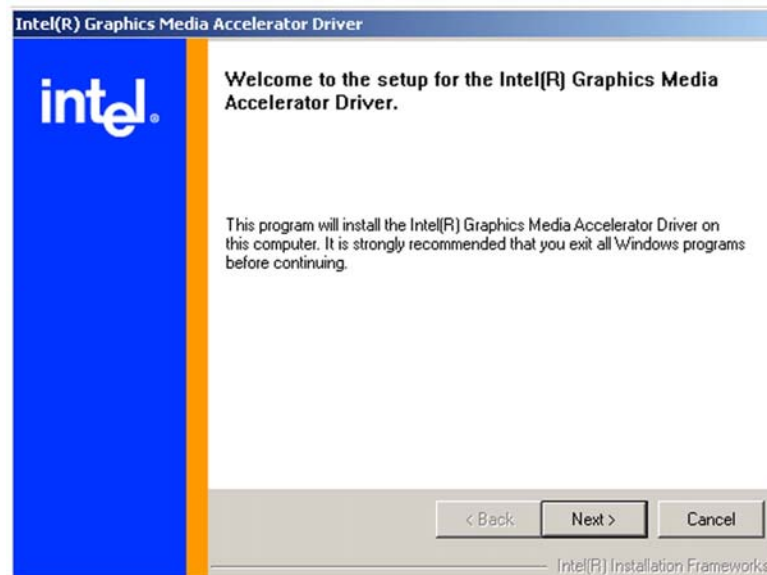

Figure 7-13: GMA Driver Installation Welcome Screen
Step 6: The welcome screen shown in **Figure 7-13** appears.